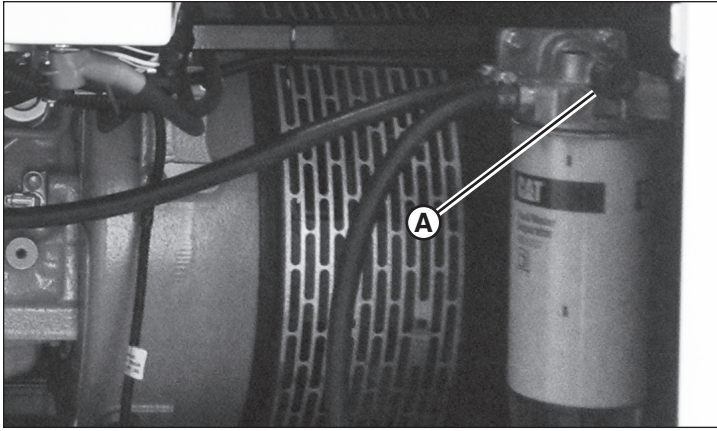

Figure 18
**NOTE:** If the engine has run out of fuel, you will need to prime the engine after refueling. Twist the prime rod (A, Figure 18) counterclockwise to unlock, pull out, pump 3-4 times or until firm, then push in and twist clockwise to lock.